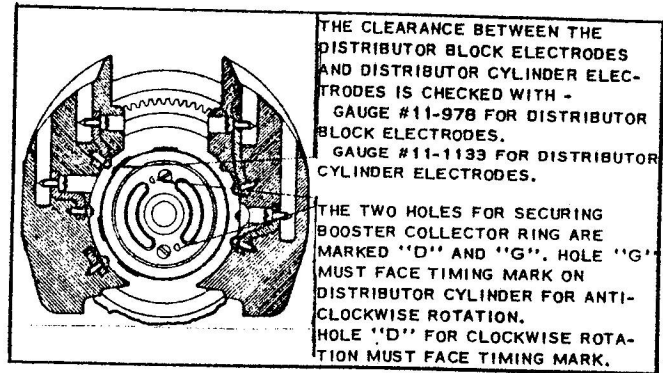

Figure 7 Cross Section View of Distributor Cylinder and Distributor Blocks
(1) See that the electrodes are clean and tight in place. If new electrodes are installed, they must be checked with template No. 11-978 to insure that the required clearance between them and the distributor cylinder segments is maintained. (See Figure 7). Use tool No. 11-1157 for machining distributor block electrodes newly installed.
(1) Make sure that the dog screw is tightened and locked in the hole located in the face of the large distributor gear marked "D" for clockwise rotation, and "G" for anticlockwise rotation. The booster collector ring is secured to the distributor cylinder with two screws. One screw hole is marked "D" and the other "G". The hole marked "D" must face toward the straight line or timing mark on the distributor cylinder for clockwise rotation the hole marked "G" must face towards the straight line or timing mark. (See figure 7.)
(2) Place the distributor cylinder in position on the large distributor gear having the dog screw in the face of the gear engage a corresponding hole located on the flat surface of the distributor cylinder and then install the lock ring.
(3) Install the insulating plate and the safety gap bridge to the magneto housing with their two securing screws. These screws must be staked after they have been tightened.